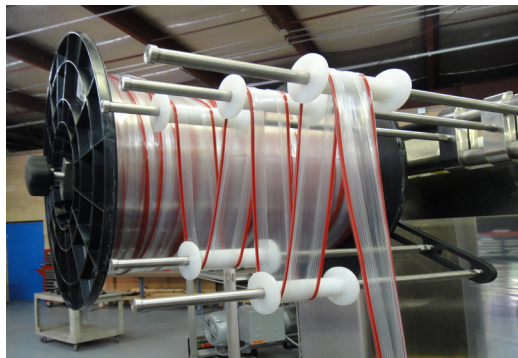

Figure 1.5 A
4. Thread zipper material through dancer assembly according to threading diagram (Figure 1.5 A).